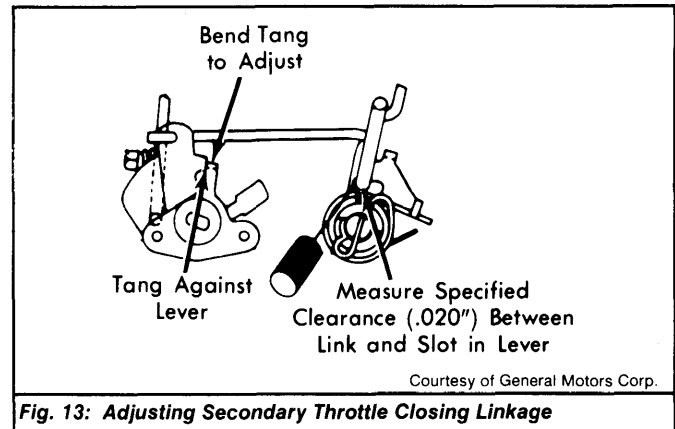

Fig. 13: Adjusting Secondary Throttle Closing Linkage
- 1) Engine idle speed must be correctly adjusted. Hold choke valve wide open and make sure fast idle cam follower is off fast idle cam steps. See Fig. 13.